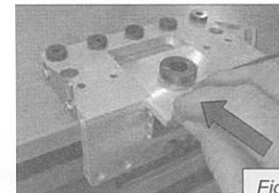

Fig.14
- 5.1. Slide the Minifix drill guide 12/24 mm into the jig body (fig. 14).
- 6.1. Slide the Minifix drill guide 12/34 mm into the jig body (fig. 14).
- 7.1. Slide the Minifix drill guide 15/24 mm into the jig body (fig. 14).
- 8.1. Slide the Minifix drill guide 15/34 mm into the jig body (fig. 14).